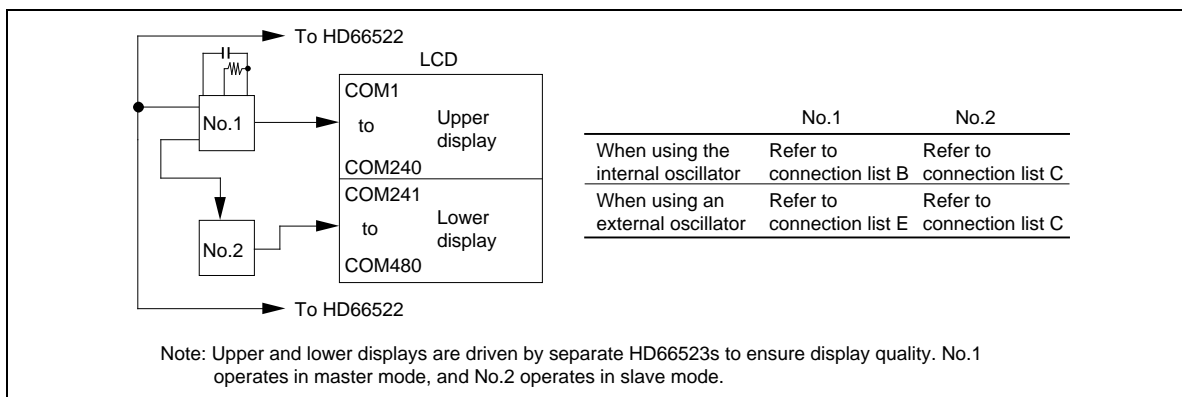

Figure 6 System Configuration When Using a Two HD66523
- When two HD66523s are used to configure a large display (Figure 6)